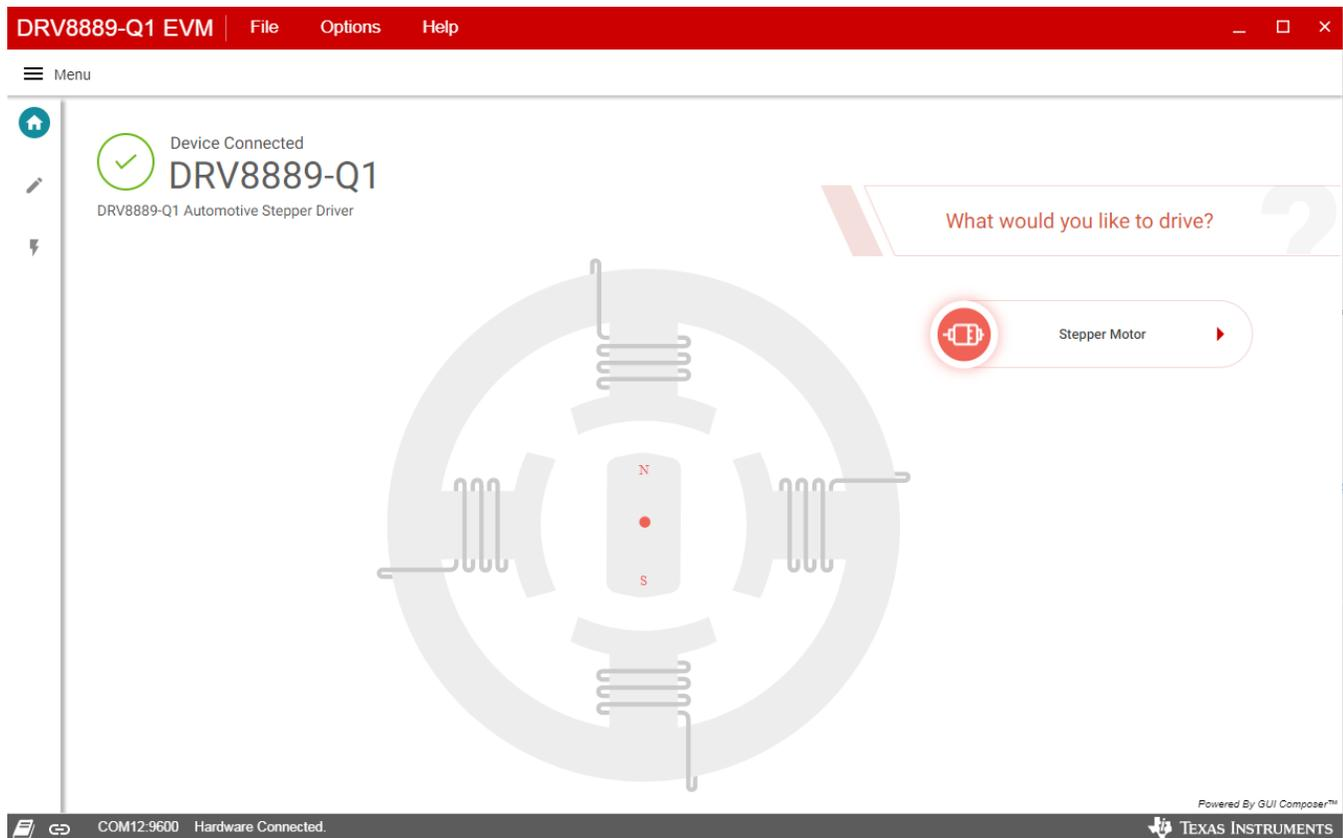

Figure 1. DRV8889-Q1 EVM GUI (Home Page)
- The Application opens with launch page shown in Figure 1.
- Once the correct device is connected, the home page will show a message ‘Device Connected’ with a green check mark as shown in Figure 1.